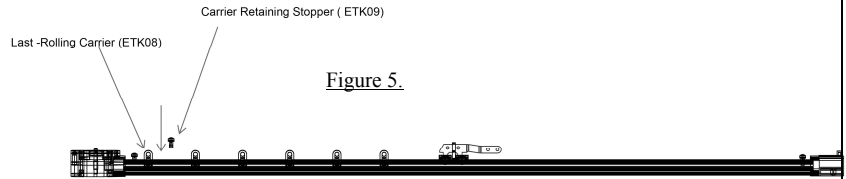

Figure 5.
15. Insert the fixed end stops into the track slot between the last two carriers and the end box. Screw in place to maintain the position of the last carrier as shown in Figure 5.